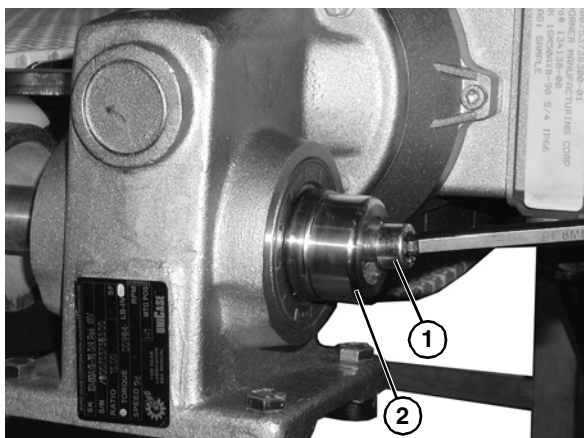

Figure 57
6. Remove the plastic cap on the end of the motor and remove the socket head screw (Figure 57, item 1) and the bore plug (Figure 57, item 2).